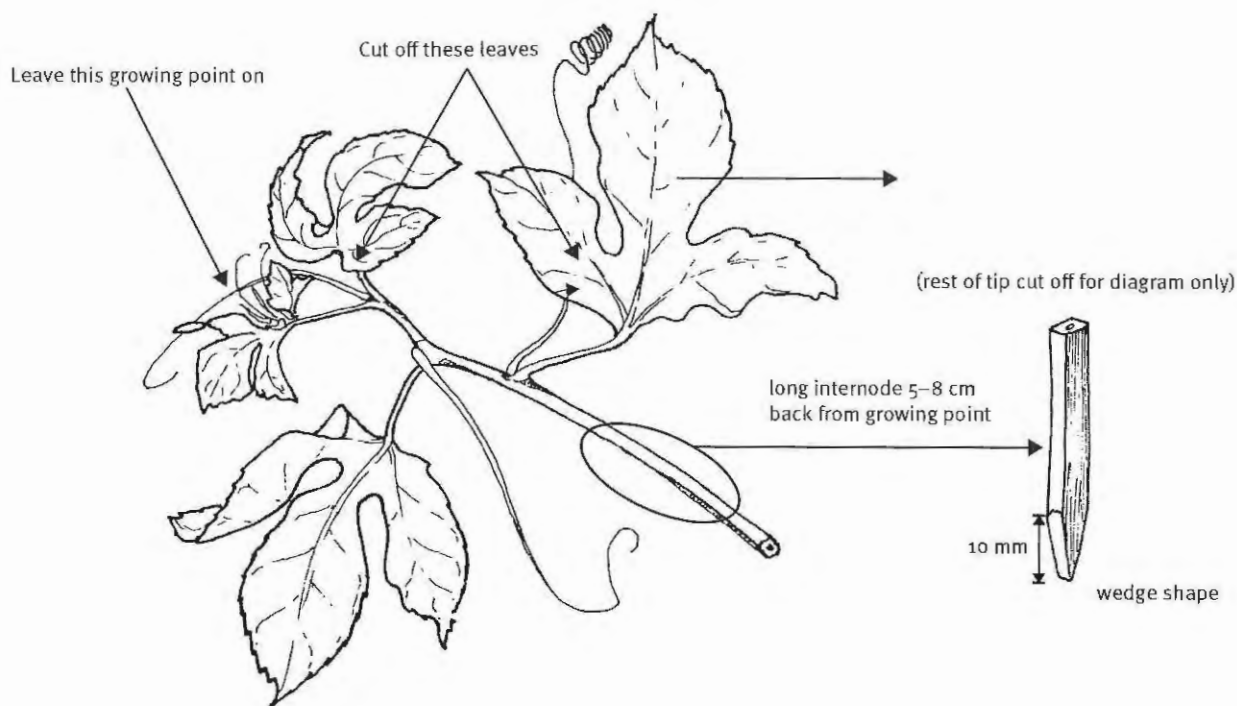

Figure 18.1 Preparing the scion wood
2. To prepare the scion wood, take a tip and cut off all leaves, leaving just the growing tip with its very small leaves. Select a long internode (space between the leaf nodes) 5 to 8 centimetres back from the growing point and of similar diameter to the rootstock. Make two opposite sloping cuts about 10 millimetres long, one on each side of the stem, to form a wedge (see Figure 18.1).